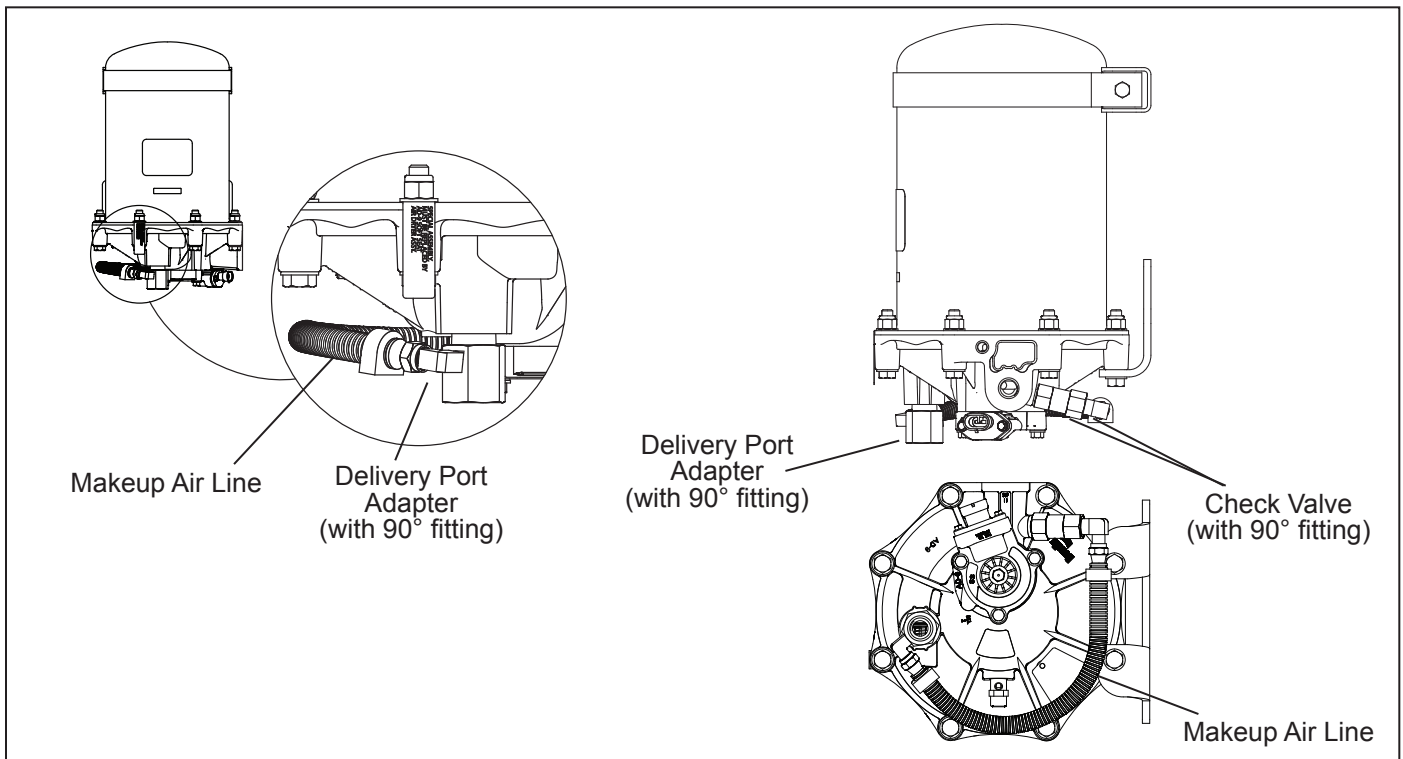

Figure 11 – Bendix® AD-9® Drop-In Air Dryer
1. Before beginning, note the approximate angle of the fittings, check valve and the general routing of the makeup line on the air dryer. It is important that the same approximate routing be duplicated during re-installation. See Figure 11.